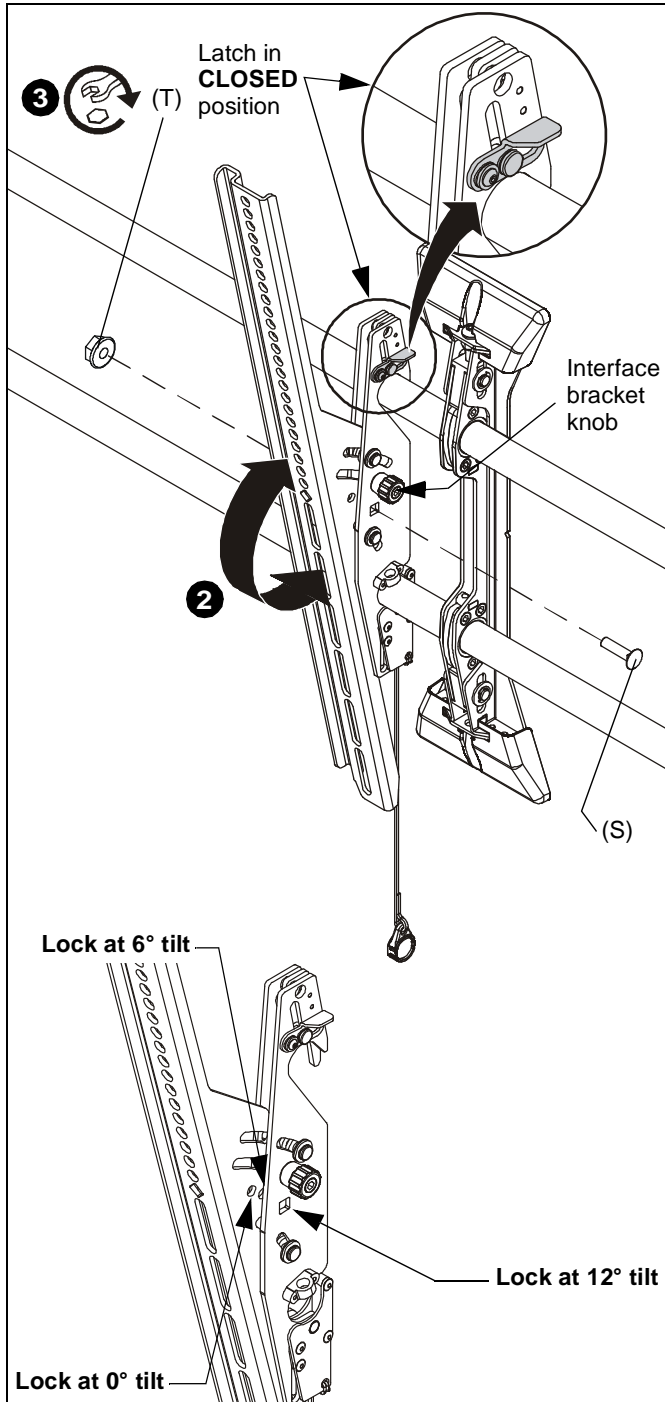

Figure 16
3. **(XTM1U only)** Move latch on top of interface brackets to CLOSED position. (See Figure 16)
2. Adjust tilt as required. (See Figure 16)
3. The tilt may be locked at 0°, 6° or 12° using one 1/4-20 x 1" round head carriage bolt (S) and one 1/4-20 hex nut (T) per interface bracket. (See Figure 16)